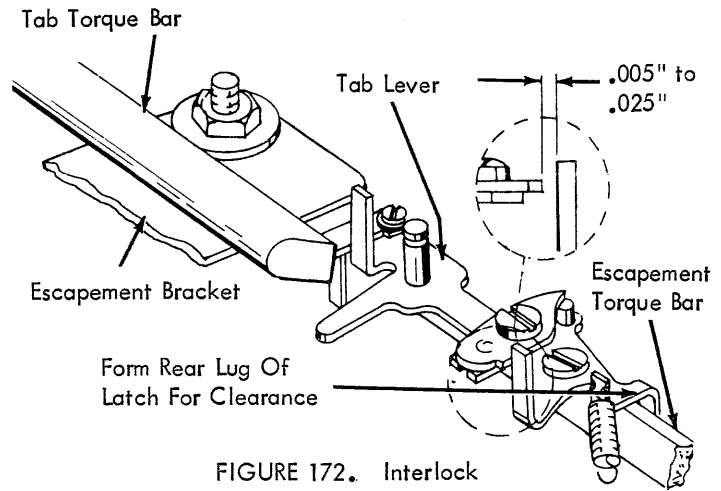

FIGURE 172. Interlock
12. Carrier Return/Tab Interlock (Fig. 172) - With the carrier return clutch latched, the upright lug of the tab latch should clear the end of the tab lever pawl by .005\" to .025\". The rear lug of the tab latch should be formed forward or back to obtain this condition.